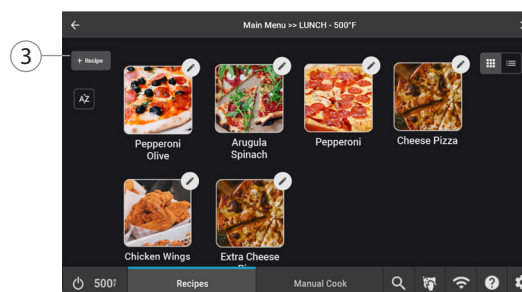

Figure 30: Add/Create Recipe
- Touch the “+Recipe” button (Figure 30, above).